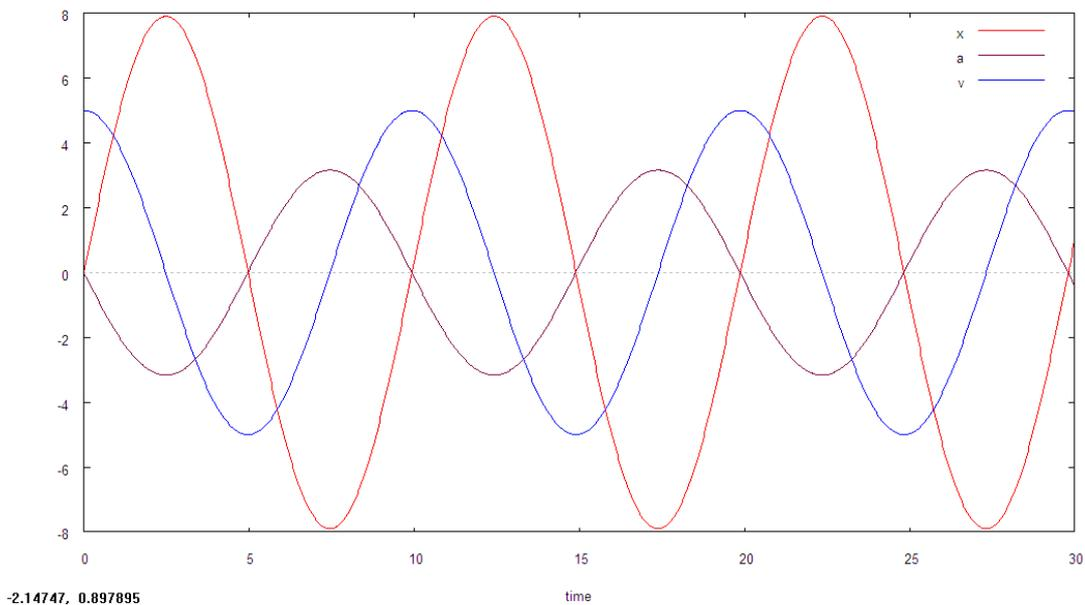

Figure 3: Plot of Harmonic Oscillation
9. Click *Finish* – you should get a plot similar to Figure 3